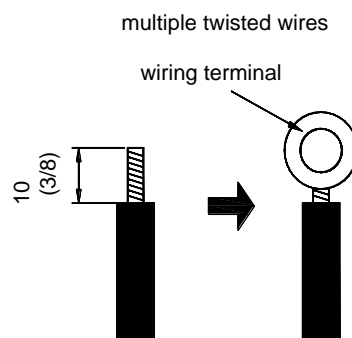

Fig.5.1.2
(2) The connection of stranded wire (as shown in fig.5.1.2)